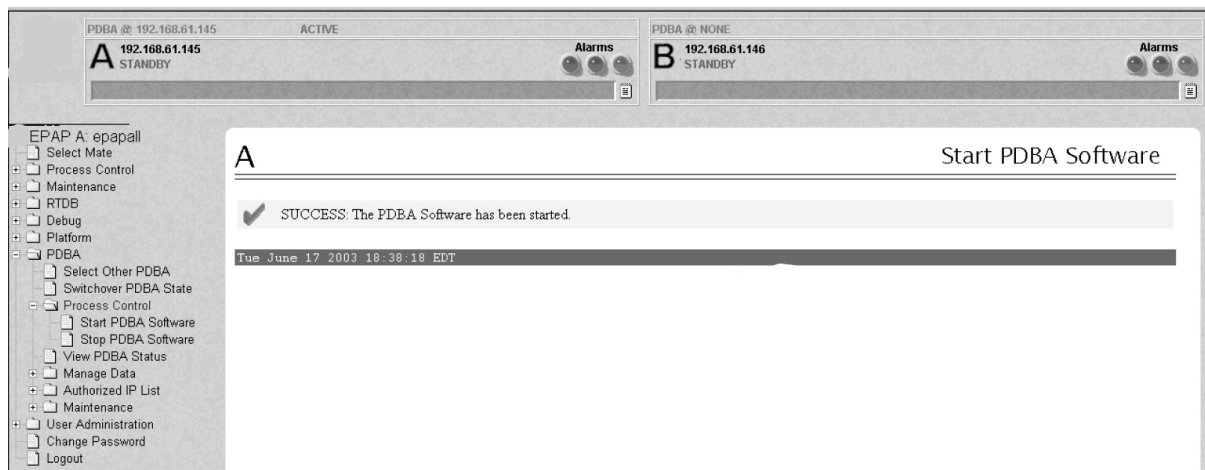

Figure 40: PDBA Started
6. When the PDDBA software has been started, the window shown in Figure 40: PDDBA Started displays, and within moments the banner will show the PDDBA status as ACTIVE or STANDBY.